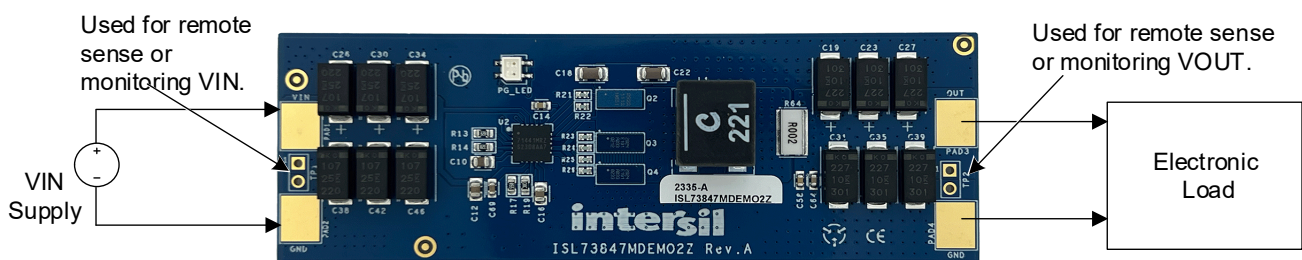

Figure 2. ISL73847MDEMO2Z Board Setup
1. Apply a 4.5V to 15V voltage to  $V_{IN}$  connectors, as shown in Figure 2. To use 4w sense lines from a power supply or a voltmeter to monitor the input voltage, solder a jumper to TP1.
2. If required, a resistor or electronic load can be connected to the  $V_{OUT}$  connectors, as shown in Figure 2. To use 4w sense lines from an electronic load, solder a jumper to TP2.